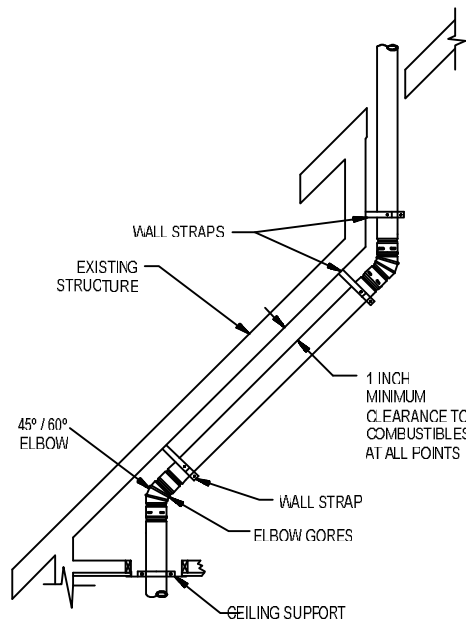

Figure 10
**7. Elbows.** When Elbows are required, strap the Pipe Sections and/or Elbows in place using Wall Straps. **Important:** the offset must be supported with Wall Straps to prevent the weight from stressing the elbows, as shown in **Figure 10**.
used to support each elbow (*Figure 10*). Do not allow the elbows to support the weight of the vent pipe.